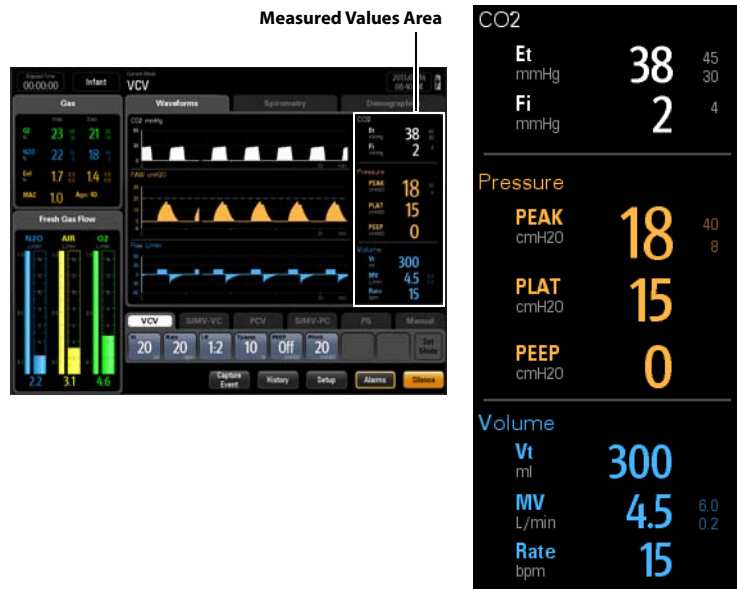

FIGURE 3-33 Measured Values Area (no AG module connected)
The Measured Values area is used to display the numerical data. The parameters include: End tidal CO₂ (with AG module connected), Fractional CO₂ (with AG module connected), Peak Inspiratory Pressure (PEAK), Plateau Pressure (PLAT) (user can configure this to display Mean Pressure (MEAN) or PLAT (see "Pressure Display" on page 3-35)), Positive End Expiratory Pressure (PEEP), I:E Ratio, Expiratory Tidal Volume (Vt), Expiratory Minute Volume (MV), and Breath Rate (Rate), and Inspiratory O₂% (FiO₂). (FIGURE 3-33)